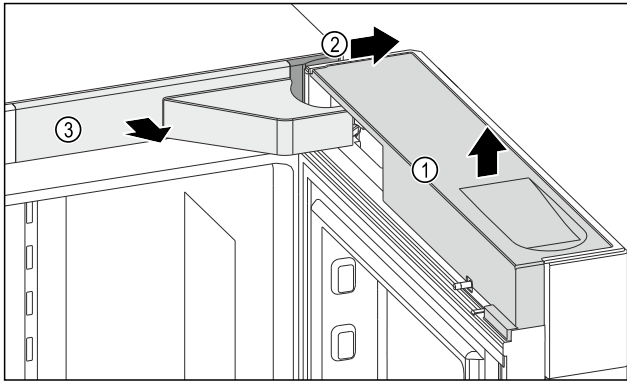

Fig. 11
- ▶ Remove the cover Fig. 11 (1).
- ▶ Remove the cover Fig. 11 (2).
- ▶ Remove the cover Fig. 11 (3).